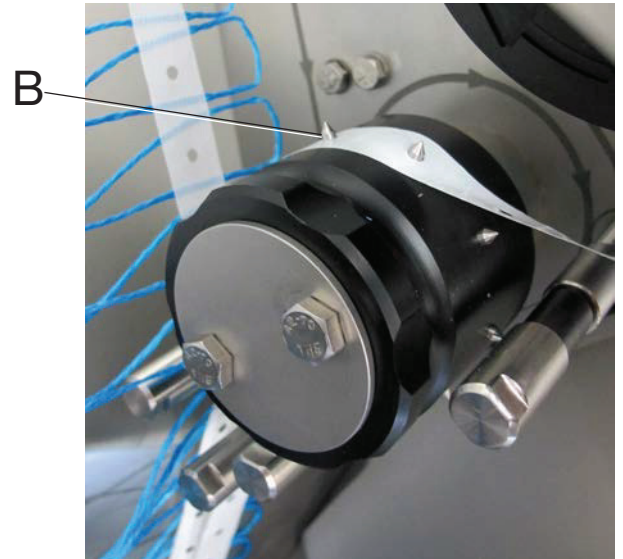

Fig. 5-15 Transport wheel
- Guide the loop tape around the inside of the guide pulley (6) and the outside of the guide pulley (7).
- Place the loop tape onto the transport wheel (8) so that several carrier pins (B, Fig. 5-15) engage into the holes in the loop tape.